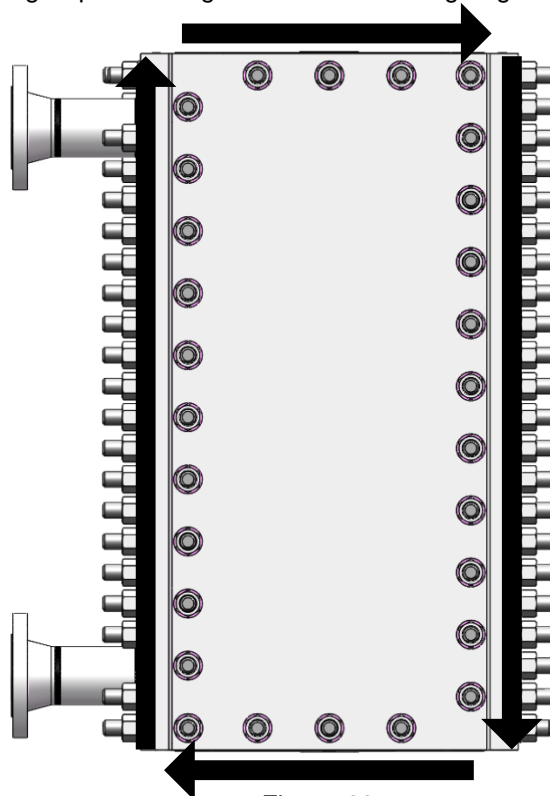

Figure 23
- Always with the same torque, tighten all the nuts of each panel (Figure 23).